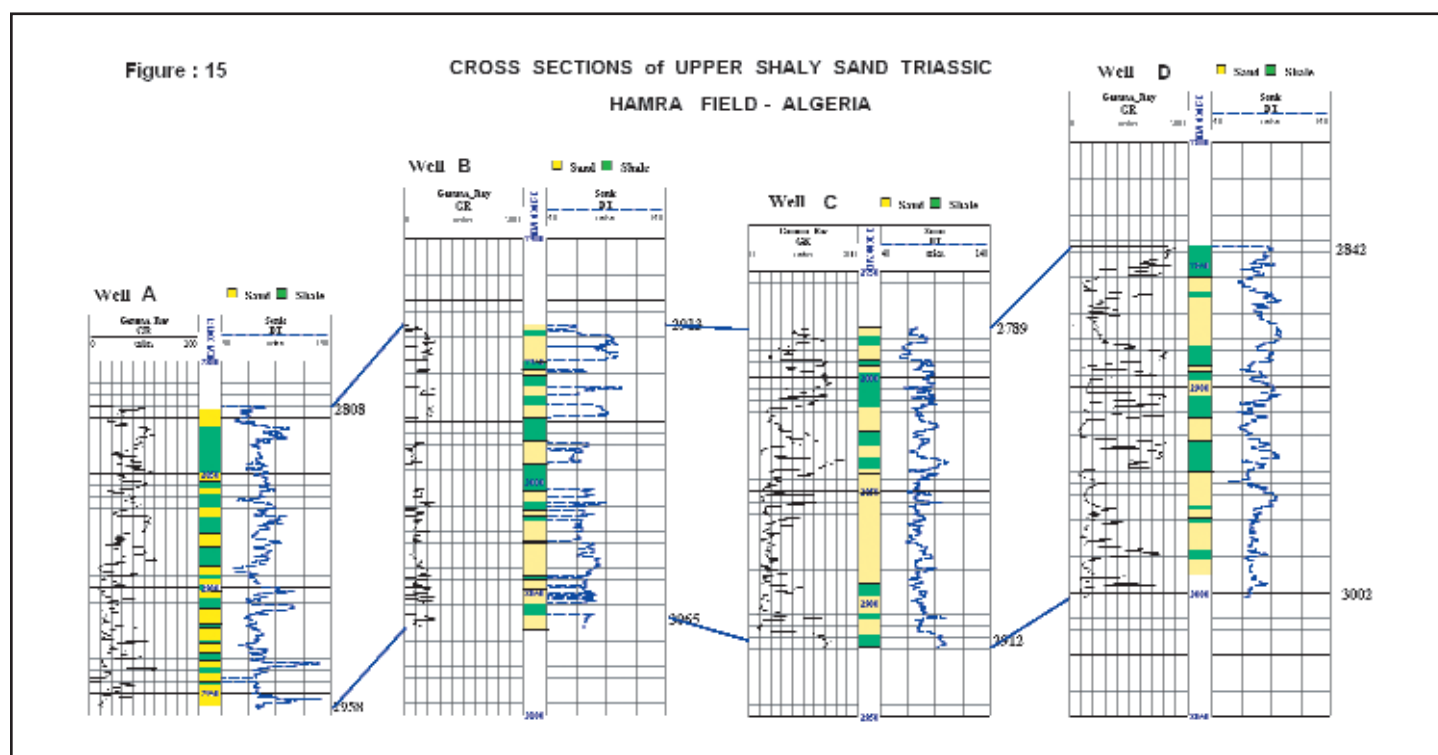

Figure 15: Cross-section
**Cross section of the Rhourde Hamra wells:** The cross section in the TAGS reservoir at Rhourde Hamra (Figure 15) shows a lateral increase of reservoir thickness and improvement of reservoir quality from NE to SW, all with a good permeability.